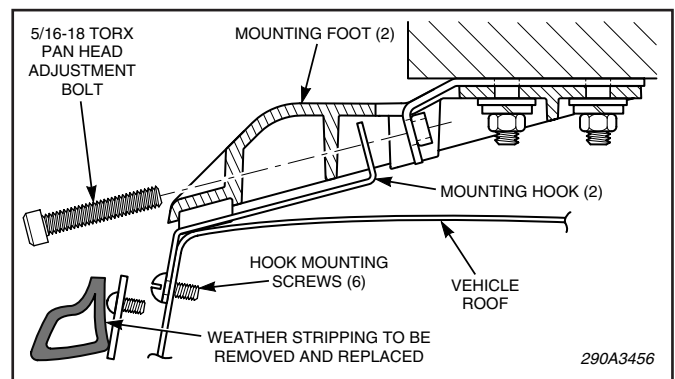

Figure 1.
- b. See figure 1. The vehicle's weather stripping must be removed to properly mount the hook. To remove the weather stripping from the vehicle, loosen the torx screws.